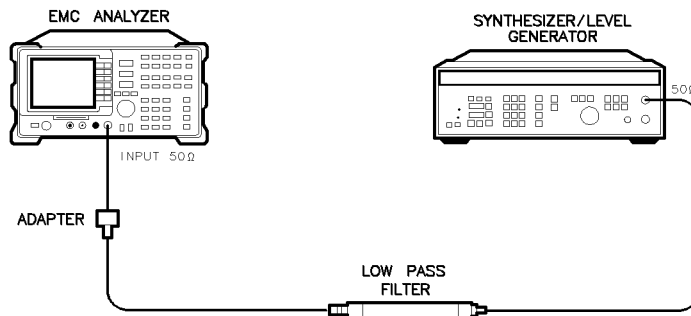

Figure 2-38.
2. Connect the equipment as shown in Figure 2-38.